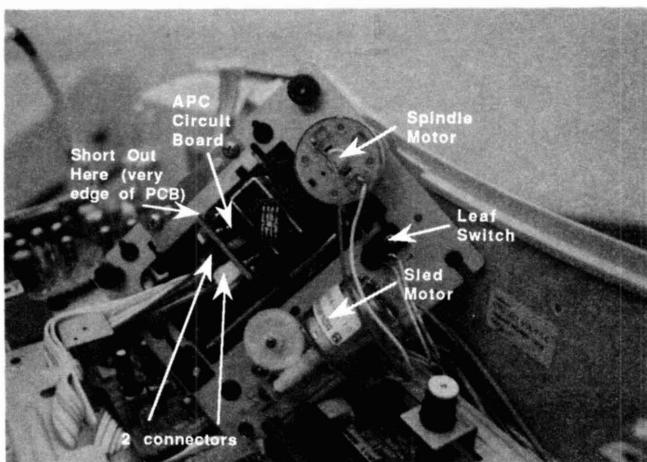

Figure 7
C. To prevent electrostatic damage to the mechanism, solder and short out the two points on the APC circuit (very corner of PCB, see Figure 7).
D. Flip PCB up and disconnect the 2 connectors from the APC circuit (Figure 7).
A. Desolder the **red** and **white** wires from the **spindle motor** (Figure 7).
B. Desolder the **orange** and **brown** wires from the **sled motor** (Figure 7).
C. Desolder the **yellow** wires from the **leaf switch** (Figure 7).
- A. Solder the yellow wires to the leaf switch terminals (Figure 7).**
- B. Solder the orange and brown wires to the sled motor terminals (Figure 7).**
- C. Solder the red and white wires to the spindle motor terminals (Figure 7).**
- D. Reconnect 2 connectors to the APC circuit. (Figure 7).**
- E. Desolder the shorted point on the APC circuit (Figure 7).**